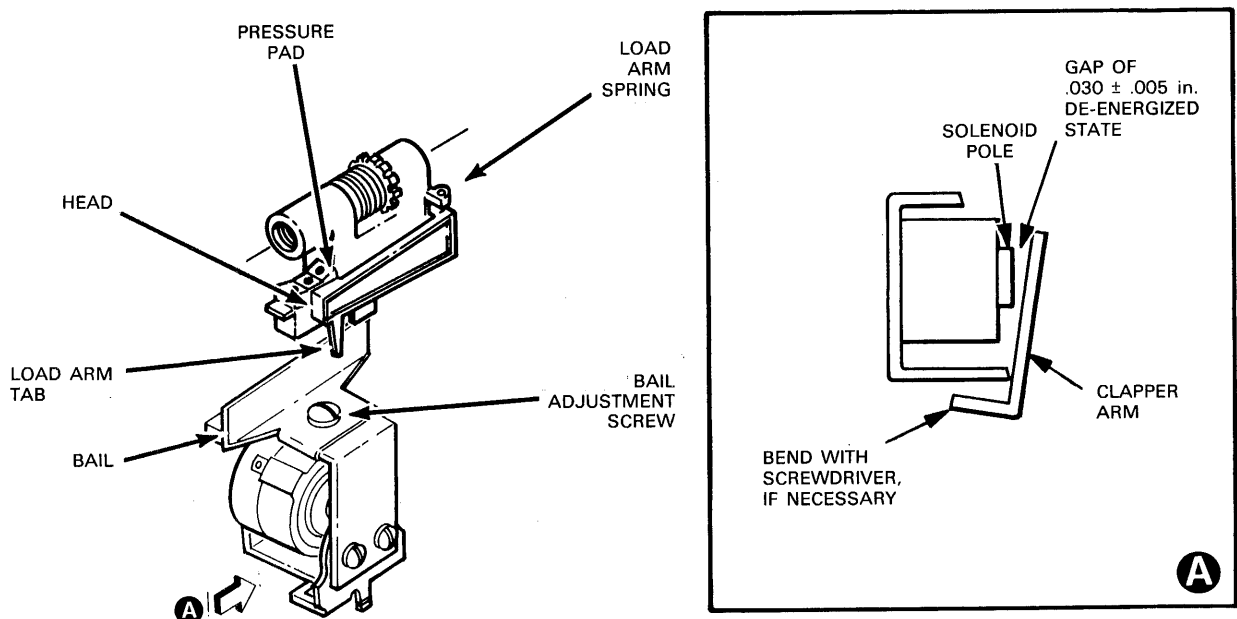

Figure 5-16. Head Load Actuator Components
2. Connect gram gage to load arm tab (Figure 5-16).
3. Verify that clearance between bail and load arm tab (Figure 5-16) is $.015 \pm .005$ in. at both ends of bail.
2. Referring to Figure 5-16, measure gap between head load solenoid pole and clapper arm when the solenoid is in the de-energized state. Gap should be $.030 \pm .005$ in. If gap is not within tolerance, carefully bend bottom of clapper arm with a screwdriver until gap is within tolerance.
4. Loosen actuator bail adjustment screw (Figure 5-16).